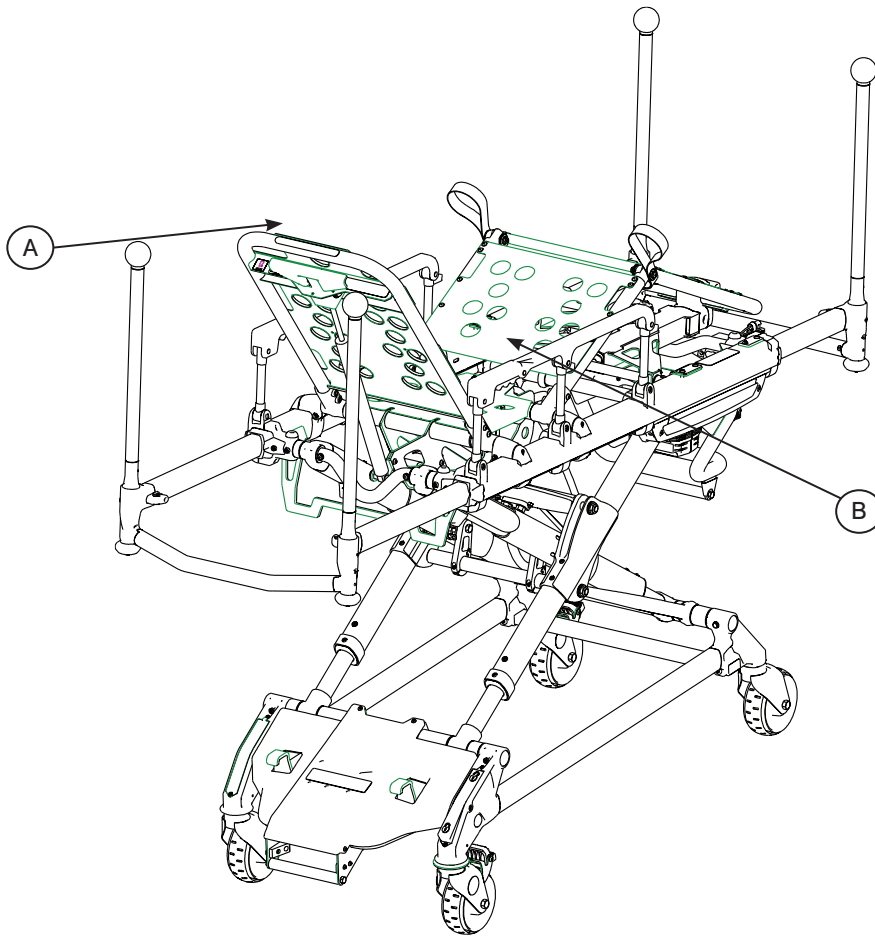

Figure 27 - Backrest Elevated and Siderails Raised
To lower, squeeze the red release handle (B) to release the siderail latch (see Figure 27). Guide the siderail down toward the foot end until flat.
To raise or lower the backrest, squeeze the red release handle (A) and move the backrest into the desired position (see Figure 27). Release the handle at any point, and the backrest will lock into position.